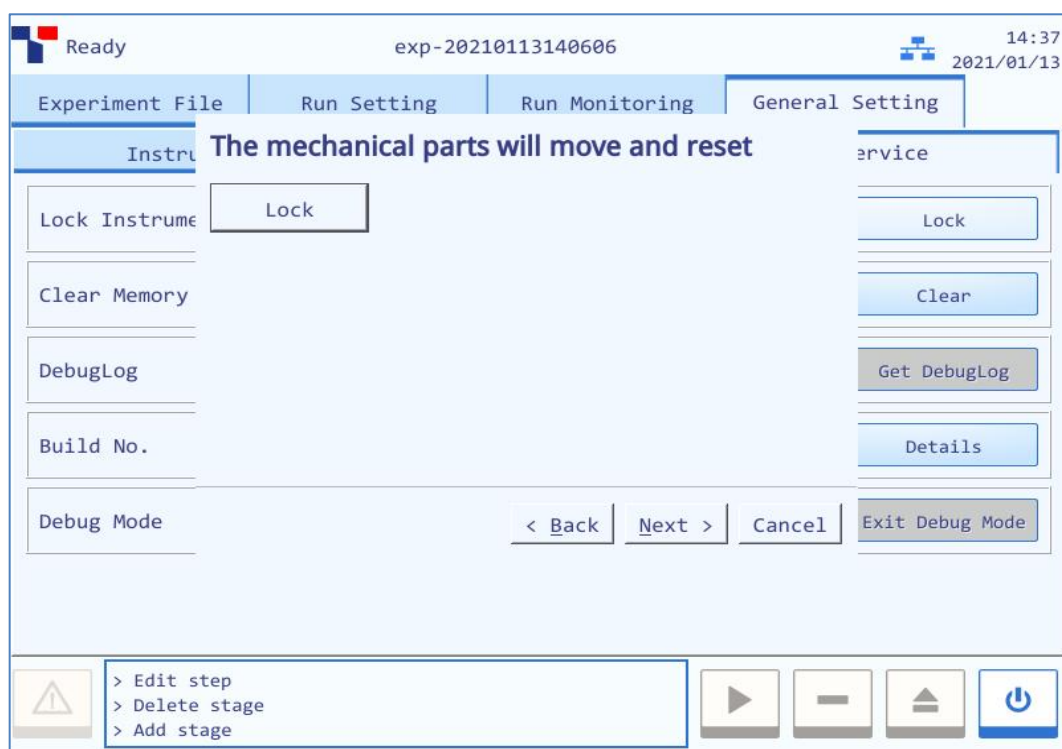

Figure F-5. Transport Locking Operation (3)
**4th Step:** Then press < **Next** >, the instrument system software will prompt user that the mechanical parts of the Gentier instrument will move and reset, as shown in figure F-5.